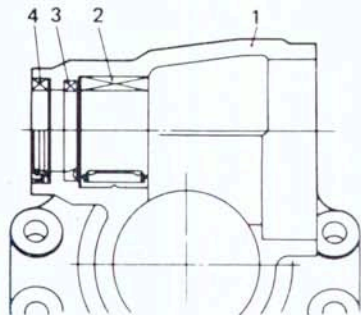

Fig. 29—Open side of sector shaft "U" packing (3) should face inward and open side of seal (4) should face outward.
When renewing needle bearings, position bearings in housings so press force is applied against side of bearing with manufacturer's marks. Install new oil seals, "O" rings and Teflon seal rings as shown in Figs. 29 through 34. Lubricate seals and "O" rings prior to reassembly. Apply molybdenum disulfide "Molycoat" to steering column bushing (46—Fig. 28) and oil seal (47).